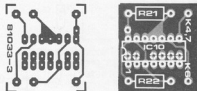
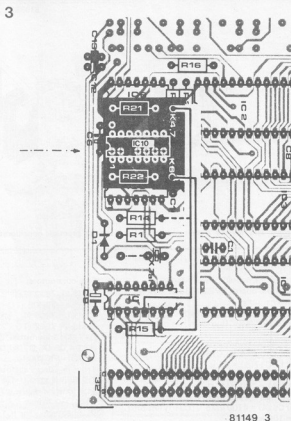

Figure 1. The 'piggy-back' board, which includes the circuit shown in figure 2b, replaces IC10 on the main board.
Figure 3. This is how the board in figure 2 is connected to the main board. Two wire links are involved: one leading to K6 and one to either K4 or to K6.
When an upper storey is built on to a house, it is a good idea to check the foundations and make sure the whole lot won't collapse under the strain... Actually, as far as the Junior Computer is concerned, there isn't that much to do (see Table 1) and, in any case, people who feel wary about removing components may rest assured, as they have the choice between changing resistors (for ones with a lower value) or connecting resistors in parallel to the ones already present. Don't forget to modify the wire link at point D! Point D should now be connected to point EX. Readers with the intention of using the Printer Monitor (PM) program, including the step by step reading facility, should include the circuit shown in figure 2b. This is a special module which can be mounted on the main board in the manner indicated in table 2. The module's component overlay and printed circuit board are shown in figure 1. Figure 3 shows how to mount